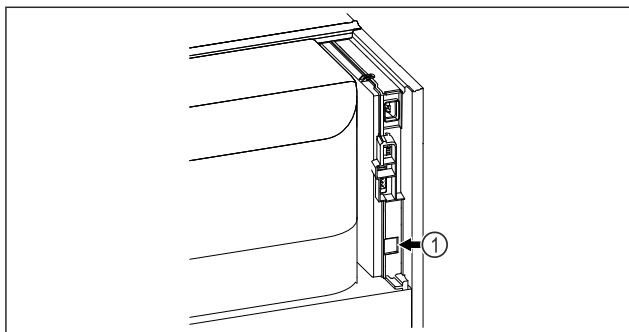

Fig. 144
- SmartModule Fig. 144 (1) is in use.